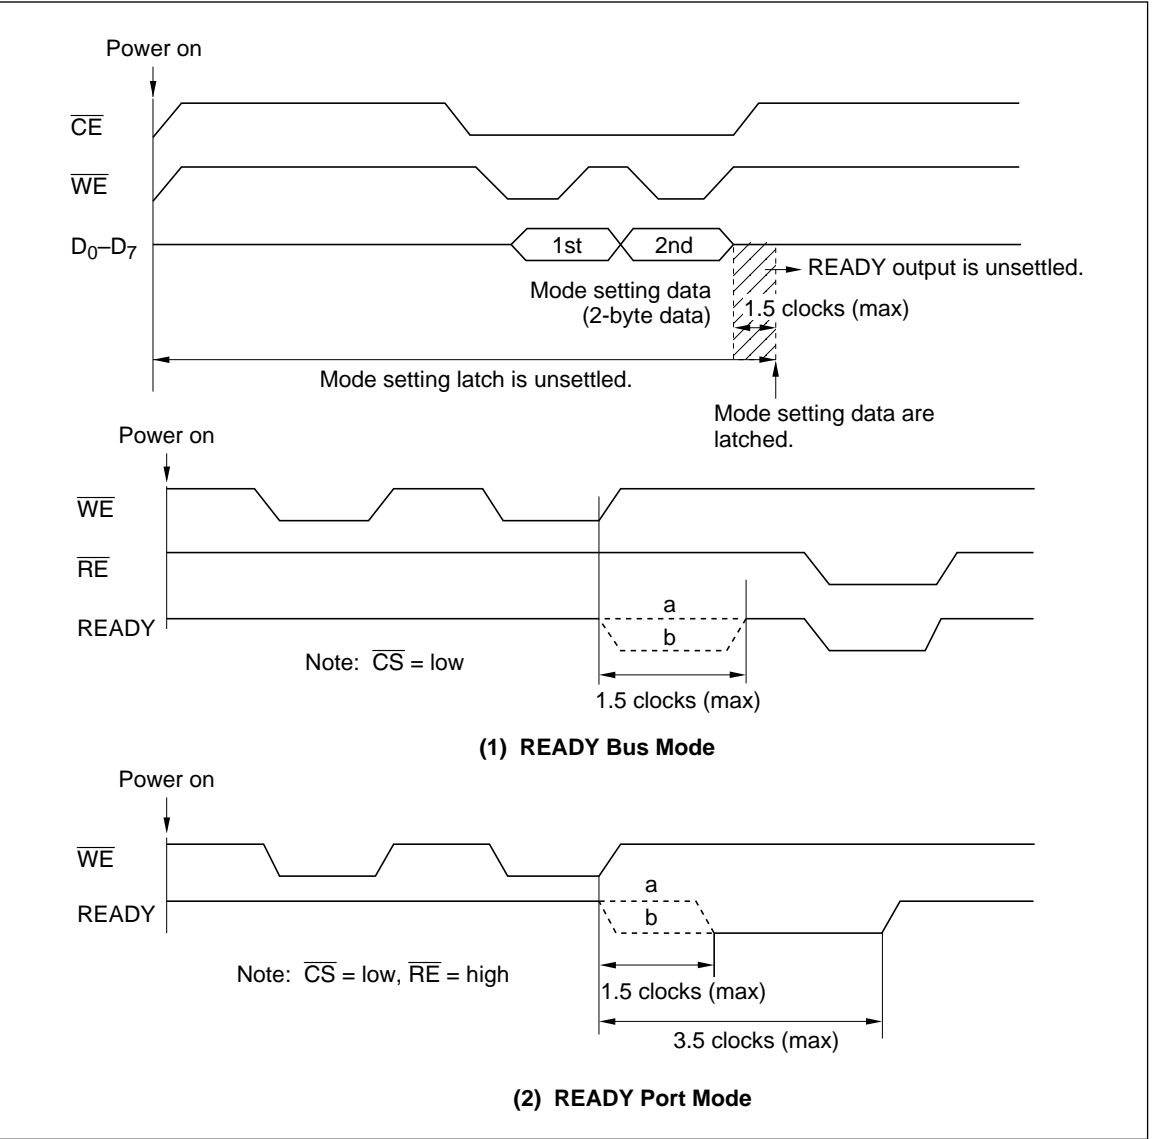

Figure 20 READY Output According to Modes
However, if you input SYNC before mode setting, waveform will be determined; when you choose READY bus mode, (1) a in figure 20 will be output, and when you choose READY port mode, (2) a will be output. The figures can be applied both to HD61604 and HD61605.